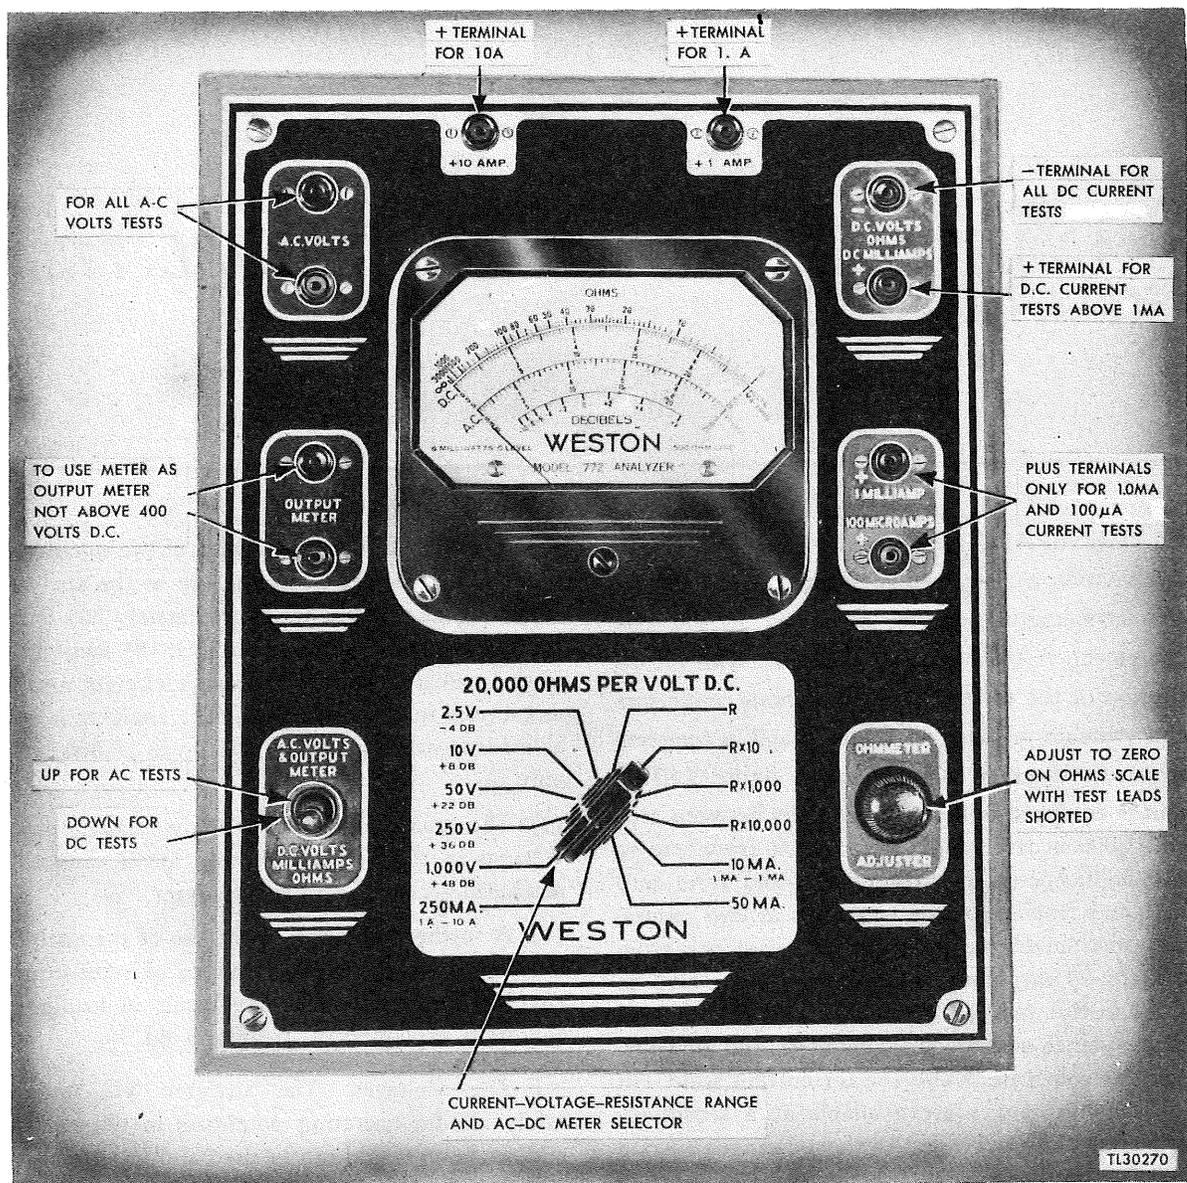

Figure 6. Analyzer I-167, Weston model 772, panel view.
10. **GENERAL.** Analyzer I-167 is one of the combination a-c d-c voltage-measuring and d-c resistance-measuring devices contained in the test equipment. A front view of the panel with identification of the functions of the various connectors and switches is given in figure 6 and a complete schematic diagram is presented in figure 7. This unit is equipped to measure d-c volts between zero and 1,000 in five ranges, d-c current from zero to 250 milliamperes in three ranges, and from zero to 1 and from zero to 10 amperes in two ranges. The instrument will measure d-c resistance from zero to 30 megohms and a-c volts from zero to 1,000 in five ranges. Individual scales are provided for resistance measurement, d-c volts, and a-c volts. The d-c-volt scale is also the d-c-current scale. All the d-c-volt ranges are available at a sensitivity of 20,000 ohms per volt. All the a-c ranges operate at 1,000 ohms per volt.
a. Limitations. (1) Operating voltages in Radio Set SCR-268-(*) cover a range from a fraction of a volt to about 11,000 volts. Voltages in parts of certain components cannot be measured by the analyzer because they exceed the voltage ranges of the analyzer. Such voltages appear in the transmitter, the rectifier, the modulator, the high-voltage power supply (to the cathode-ray tube) in the oscilloscope, and the final amplifier and high-voltage power supply circuits of the keyer.